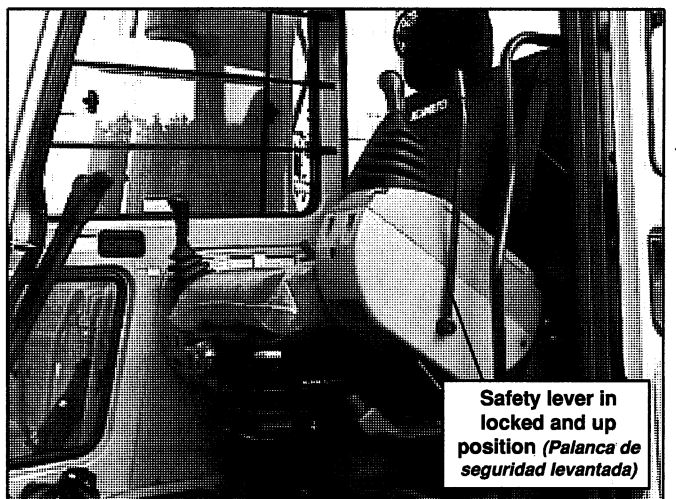

FIG. 3C
2. Place the safety lever in the lock and up position before leaving the cab, see Fig. 3C.
(*Levante la palanca de seguridad antes de salir de la cabina. Ver Fig. 3C*).